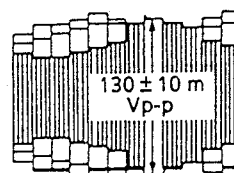

Figure 2-10.
6. Adjust R208 so that the amplitude of sync tip portion is 130 ± 10 mVp-p as shown in Figure 2-10.